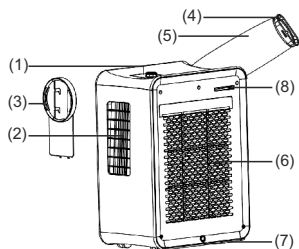

Fig. 3
4. DEVICE DESCRIPTION (Fig. 3 and 4)